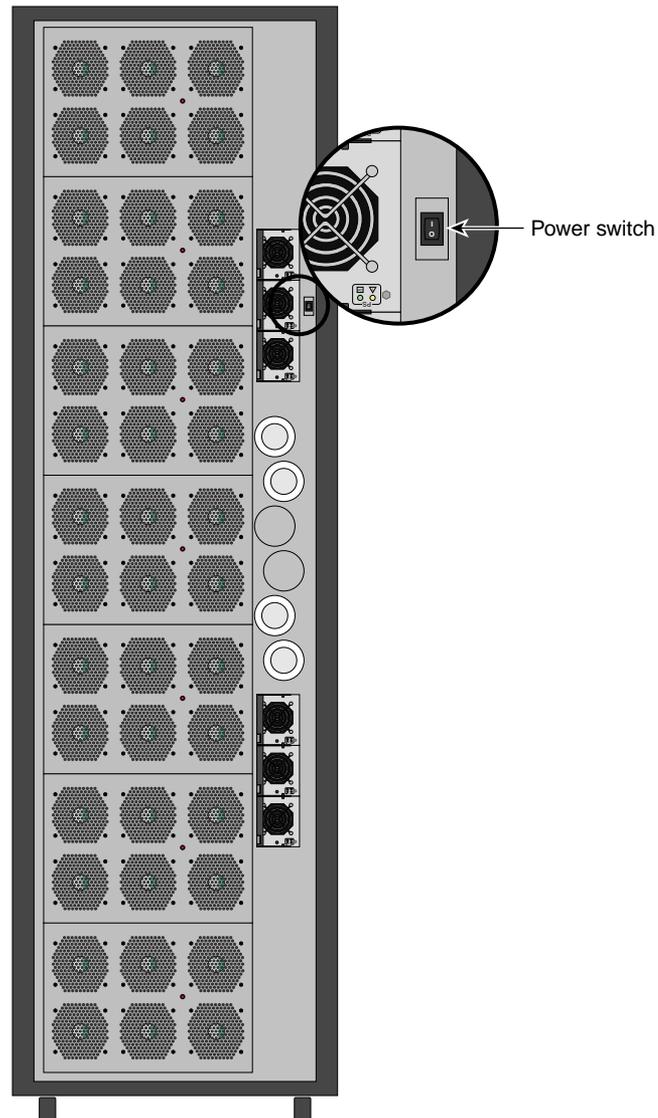

Figure 2-2 Enable Enclosure Power Switch Location
Finally, press the enable power switch to On (I) on the rear of the enclosure, see Figure 2-2 for an example.